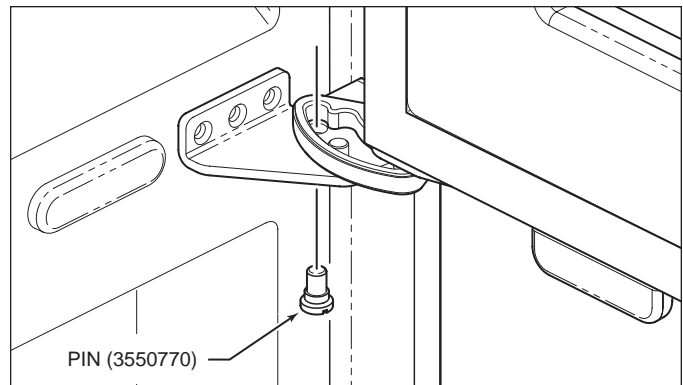

Figure 2-15. 90° Stop Pin (611G-2, 650G-2)
- b. Insert door stop pin up into threaded hole in lower cabinet hinge and tighten (See Figure 2-15).